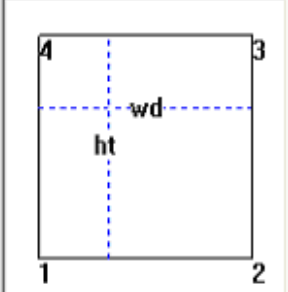

Figure 7.3: Size Information
3. In the property Dialogue, set the desired size info [Size information]. For example, left-click the Height and set it to be 2 μm . See Figure 7.3: Size Information